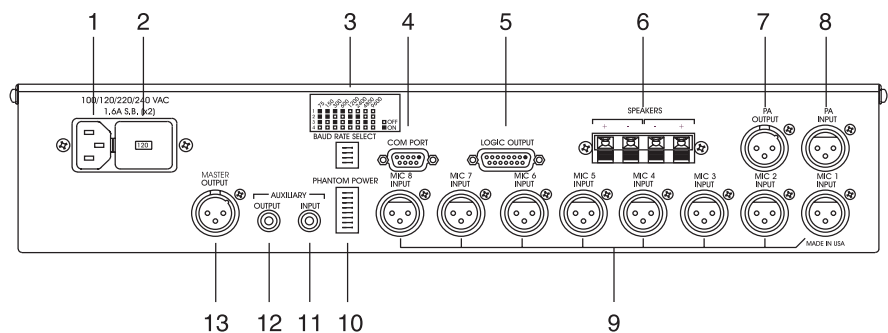

Figure 3. MPAII back-panel connectors
1. *Power Connector (AC)*. Connect a power cord (See Figure 3, below.) between this connector and the line voltage source.